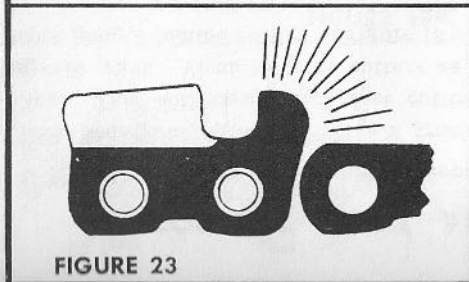

FIGURE 23
3. When filing the jointer runners, be sure and maintain the rounded corners (Figure 23). Not rounding the corners will cause rough cutting and tendency to cut out of line.